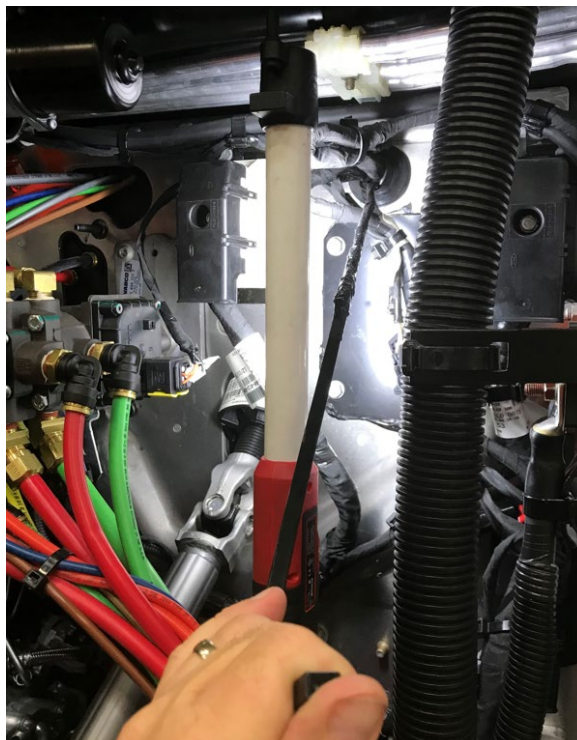

Fig. 15, Pulling the Harness through the Grommet
- 9.8. Apply a small amount of WD-40 or similar lubricant to the tape, then from the engine side, pull the cable tie to pull the end of the harness through the grommet as shown in **Fig. 15**.